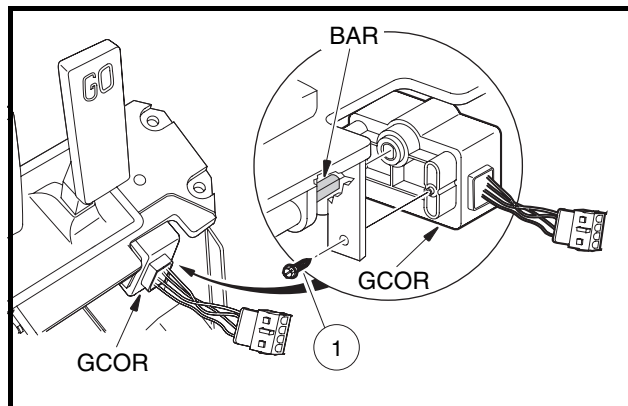

Figure 12-17 GCOR
2. Remove two screws (1) that secure the GCOR to the pedal group (**Figure 12-17, Page 12-16**).
2. Secure the GCOR with two screws (1) (Figure 12-17, Page 12-16). Tighten screws to 23 in-lb (2.6 N·m).